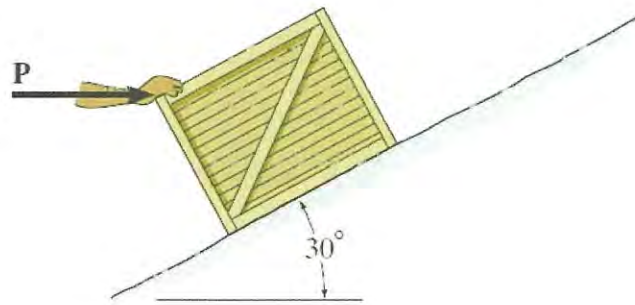

Figure Q5
- (b) **Figure Q5** shows a crate has a mass of 50 kg and the coefficient of static friction between the crate and the plane is $\mu_s = 0.25$.